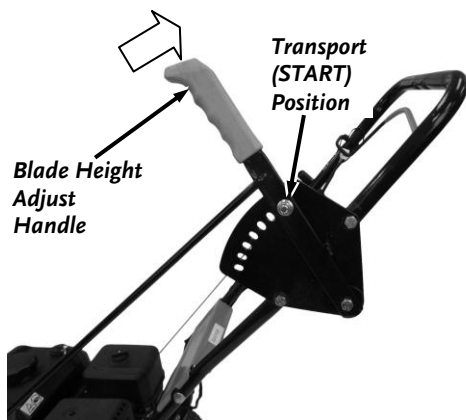

Figure 9
2. Set the Height Adjust Handle to the Transport (START) position (**Figure 9**).